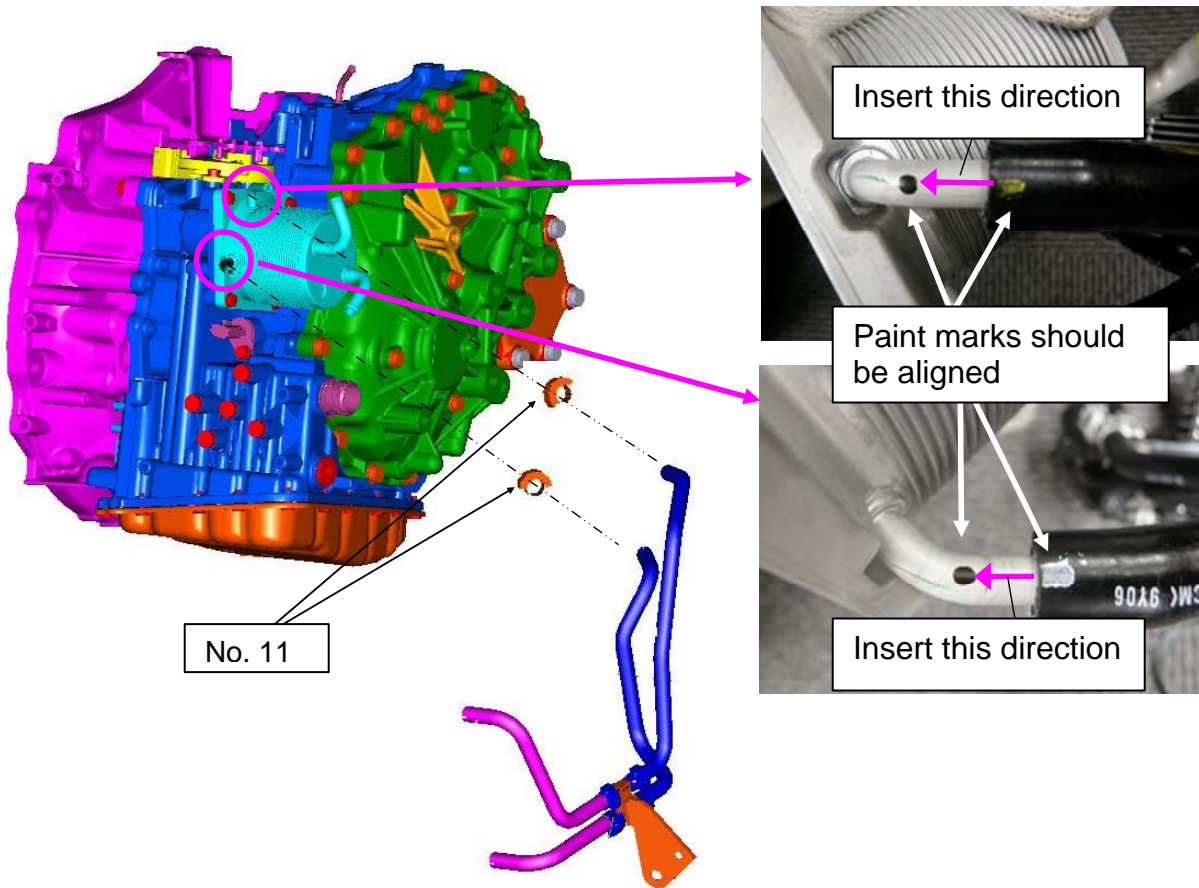

Figure 21
3. Place 2 new CLAMP-HOSE (spring clamp, No. 11) onto the hoses and install the cooler hoses (shown in blue, Figure 21) to the CVT Fluid Cooler.